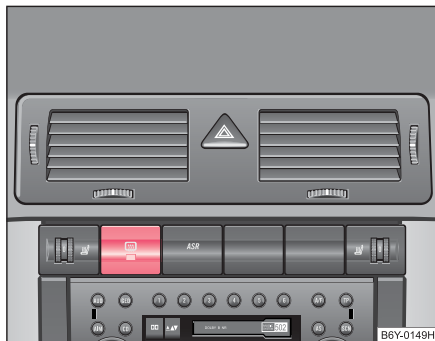

Fig. 37 Switch for rear window heater
- Press switch  to switch on the rear window heater ⇒ fig. 37.